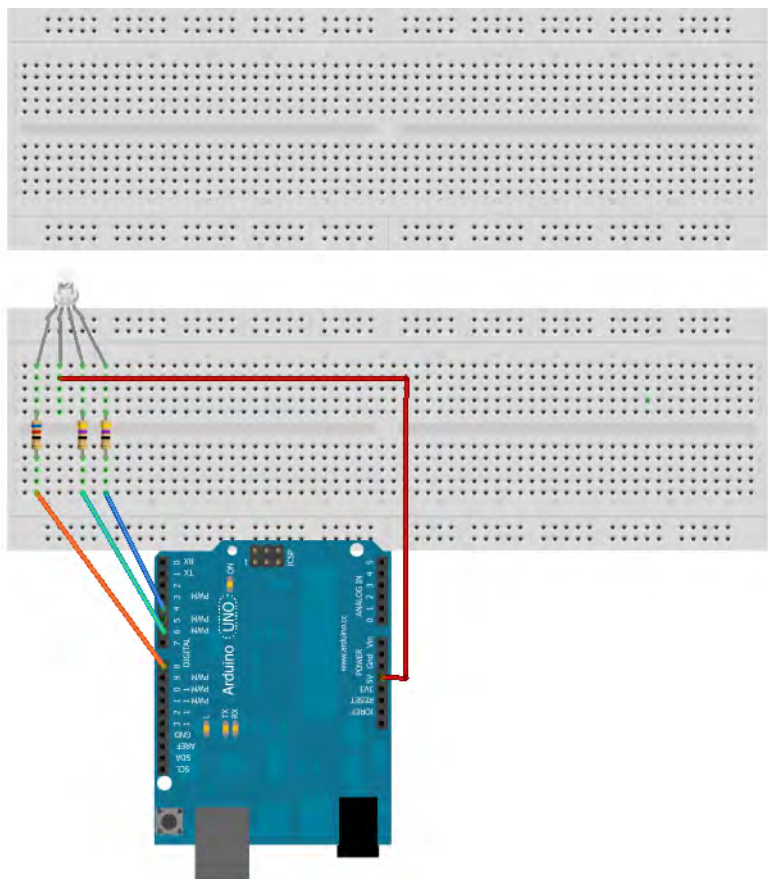

Figure 4-1. *Step one.*
1. **Connect the RGB LED to Arduino.** Most RGB LEDs are common anode, so follow the datasheet that came with your LED to connect the anode to the +5 pin on Arduino (Figure 4-1). The R, G, and B pins should be connected to Arduino pins 8, 6, and 4, respectively. For our RGB LED, the red cathode needed a 62 ohm resistor, while the green and blue cathodes needed a 47 ohm resistor. (Your values may vary.)